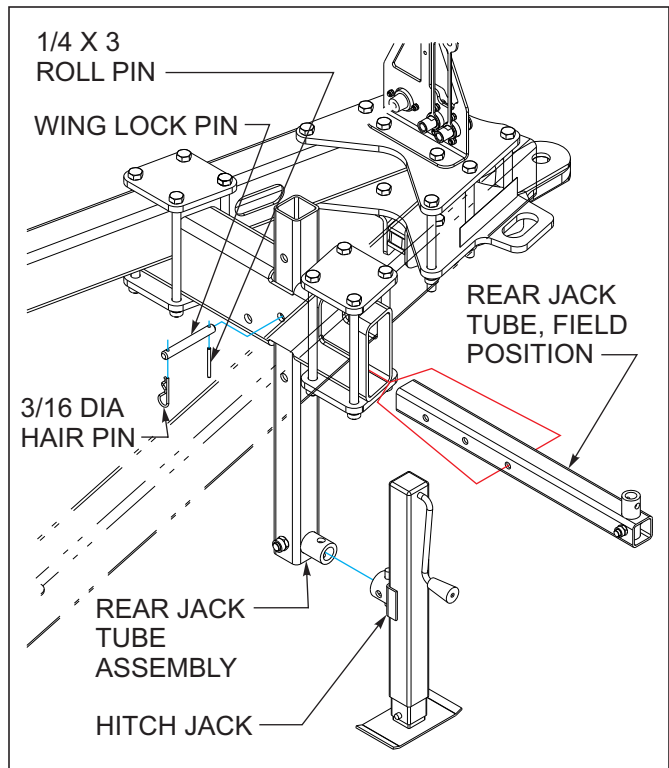

**Figure 4-17: Installed Transport Locks**
10. Install transport locks on both lift and fold systems. Do not depend solely on implement hydraulics for transport. (See Figure 4-17.)